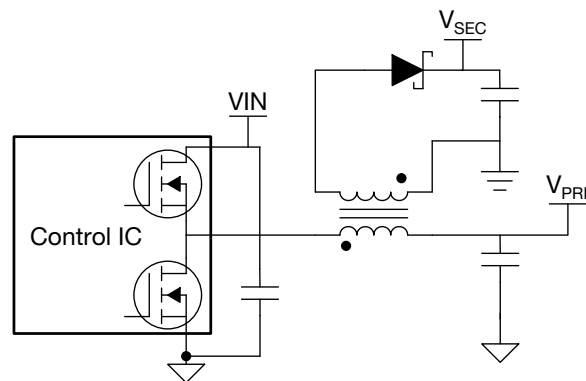

Figure 3. A Fly-Buck™ converter.
A Fly-Buck converter is a Texas Instruments-specific topology used to create an isolated bias supply. It is capable of operating from input voltages as high as 100 V. Like a flyback converter, metal-oxide semiconductor field-effect transistors (MOSFETs) are typically integrated inside the integrated circuit (IC), and it is very simple to realize primary-side control. **Figure 3** shows a Fly-Buck converter.